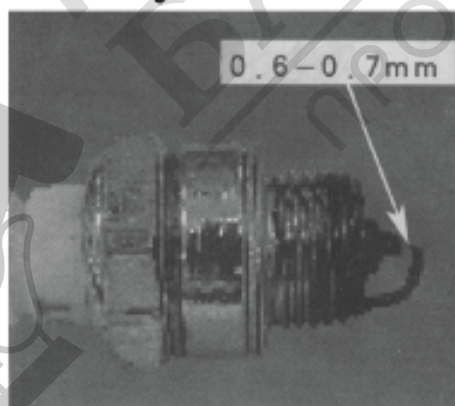

Fig 16
(2) Fuel system maintenance
(3) Air filter and plug.
- The plug model of this machine is 4106J. Do not use other models. If it is necessary for change, may buy it from local agricultural department or plant protection department, as shown in Fig.16.